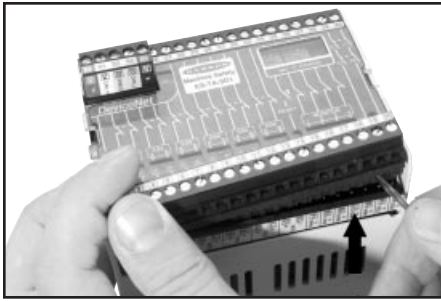

Figure 10. Gently pry up each of the three wiring barriers.
- 1) Remove the three wiring barriers (leaving the wires connected to them, if possible) by gently prying each barrier up and off, using a flat-blade screwdriver (Figure 10).